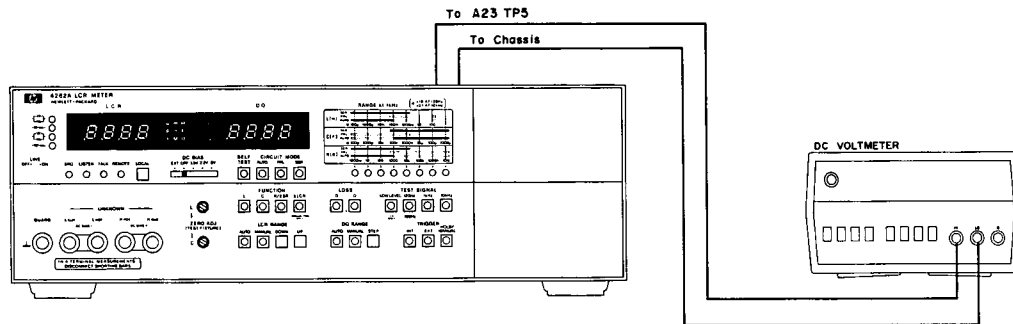

Figure 5-2. Nanoprocessor Operating Power Voltage Adjustment Location.
- a. Connect DC voltmeter plus input to test point A23TP4 and minus input to 4262A chassis with dual banana plug to alligator clip cable. See Figure 5-2.